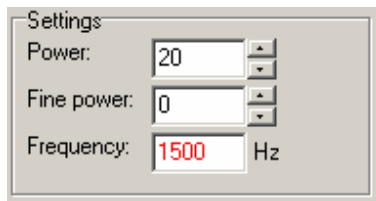

Figure 5-3 Settings Section of the Probe Screen
- In the Settings section of the Probe screen (see **Figure 5-3**), set the Power field to 0.